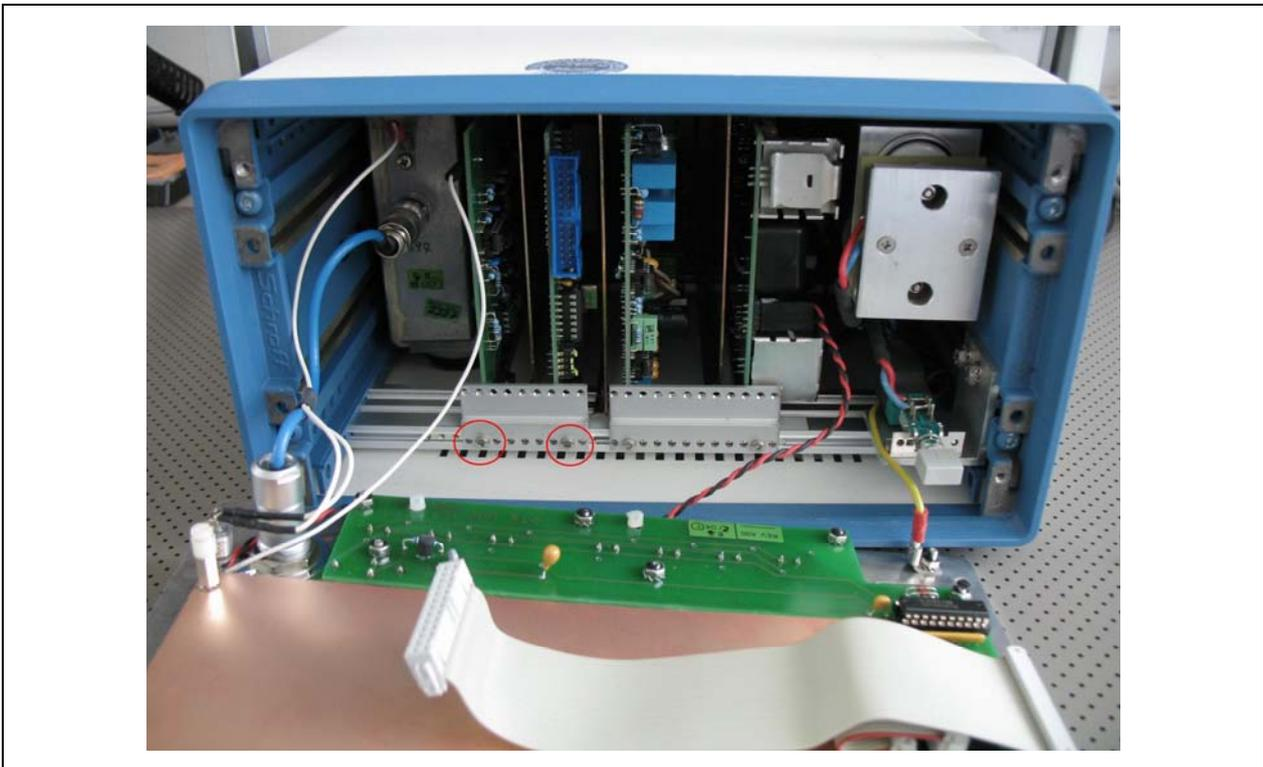

Figure 4: Flat ribbon cable unplugged; Position of screws on left metal plate
e) Use the small cross-head screwdriver to loosen the two screws on the left metal plate (see Figure 4).
- e) Slide the left metal plate to the right and use the small cross-head screwdriver to fasten the two screws on the metal plate (see Figure 4).